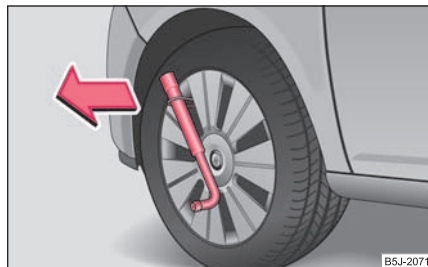

Fig. 195 Removing the full wheel trim
- Push the wheel key through the clamp, support the wheel key on the tyre and pull off the wheel trim ⇒ fig. 195.